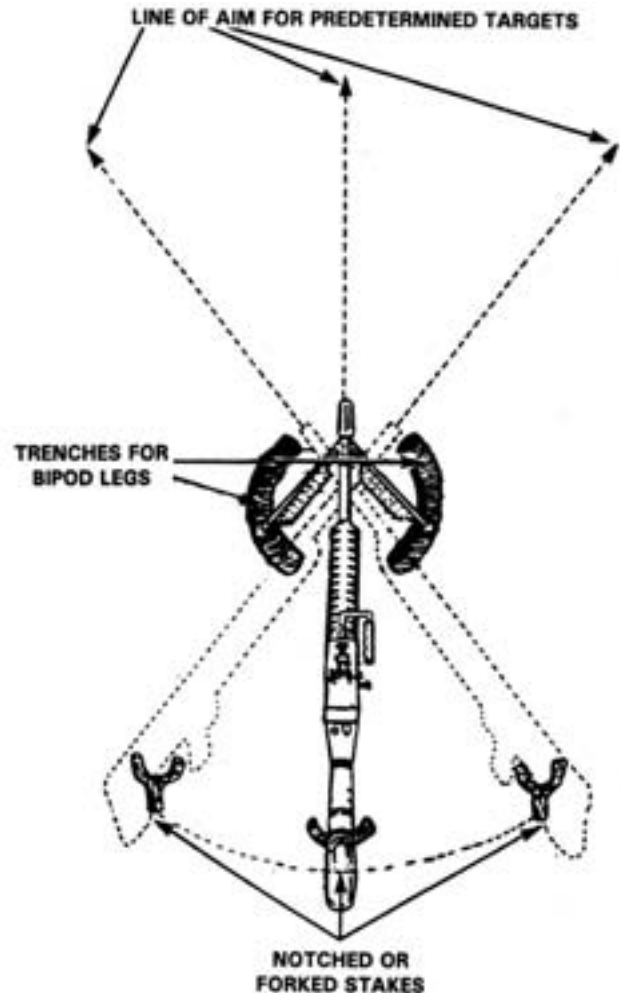

Figure 6-34. Field Expedient—Notched Stake Method.
(4) **Notched stake method.** If, for some reason, the bipod mount is being used instead of the tripod, targets can be made predetermined by the use of notched or forked stakes. The stakes are driven into the ground so that the butt stock rests in the notches when the gun is laid to hit the target. Shallow trenches or grooves are dug for the bipod feet. See figure 6-34.
- Sector limits are designated by dashed lines and named either the right or left sector limit. The firing data is recorded. The elevation reading from the T&E is recorded when using the T&E method. It is shown in figure 6-34. The elevation data for the field expedient method is based on the placement of the stakes and is not recorded on the card. The sector limits in this example are also based on the limiting stakes.